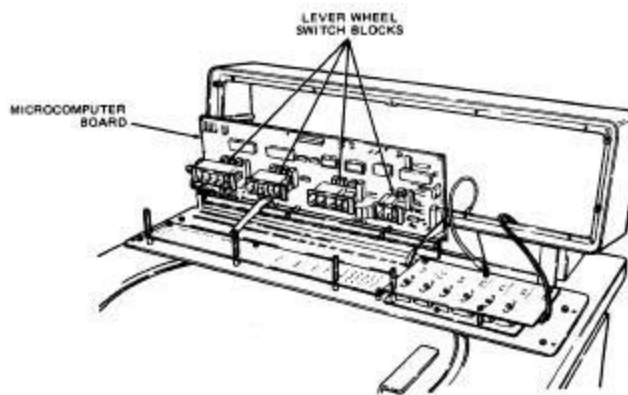

Figure 11-29. Microcomputer Board in Up Position
- a. Pivot the Microcomputer Board up on the hinge showing leverwheel switches and front of board. Figure 11-29.